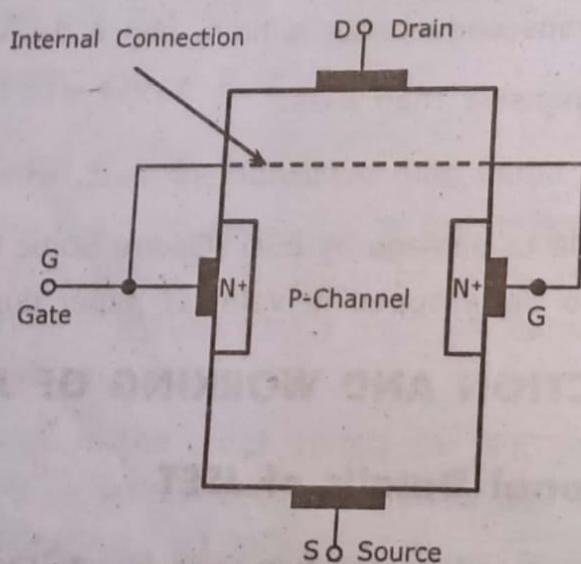

Fig. 4.2.2 P-channel J-FET
(2) **P-channel JFET**. The basic construction of P-channel JFET is shown in Fig. 4.2.2,
Fig. 4.2.2 shows the construction of P-channel JFET.